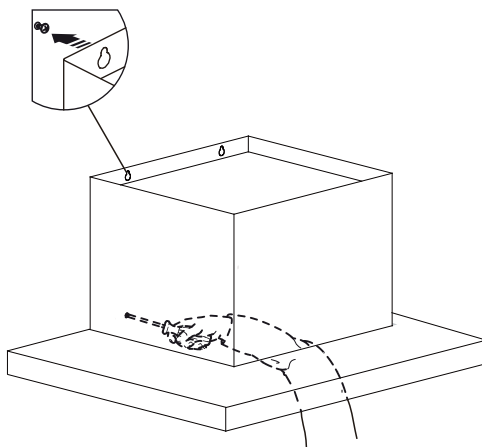

Fig.3
- Remove the aluminium filters from the rangehood body and hang it on the ST3.9 x 32mm screws then secure at the anti-tilt locations as indicated in Fig. 3.